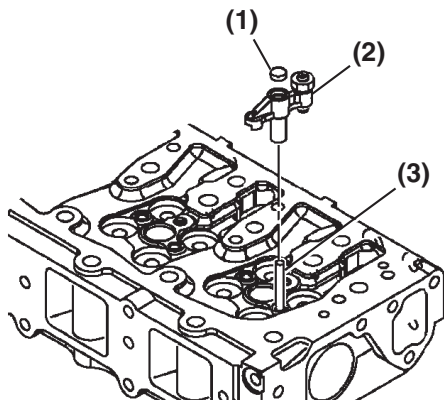

Figure 6-61
Visually inspect the contact surface at both ends of the valve bridge (Figure 6-61, (2)) for excessive wear or mushrooming.
Remove and inspect the seat (Figure 6-61, (1)).
Measure the diameter of the valve bridge guide pin bore in the valve bridge and guide pin (Figure 6-61, (3)). See Rocker Arm and Shaft on page 6-9 for the service limit.